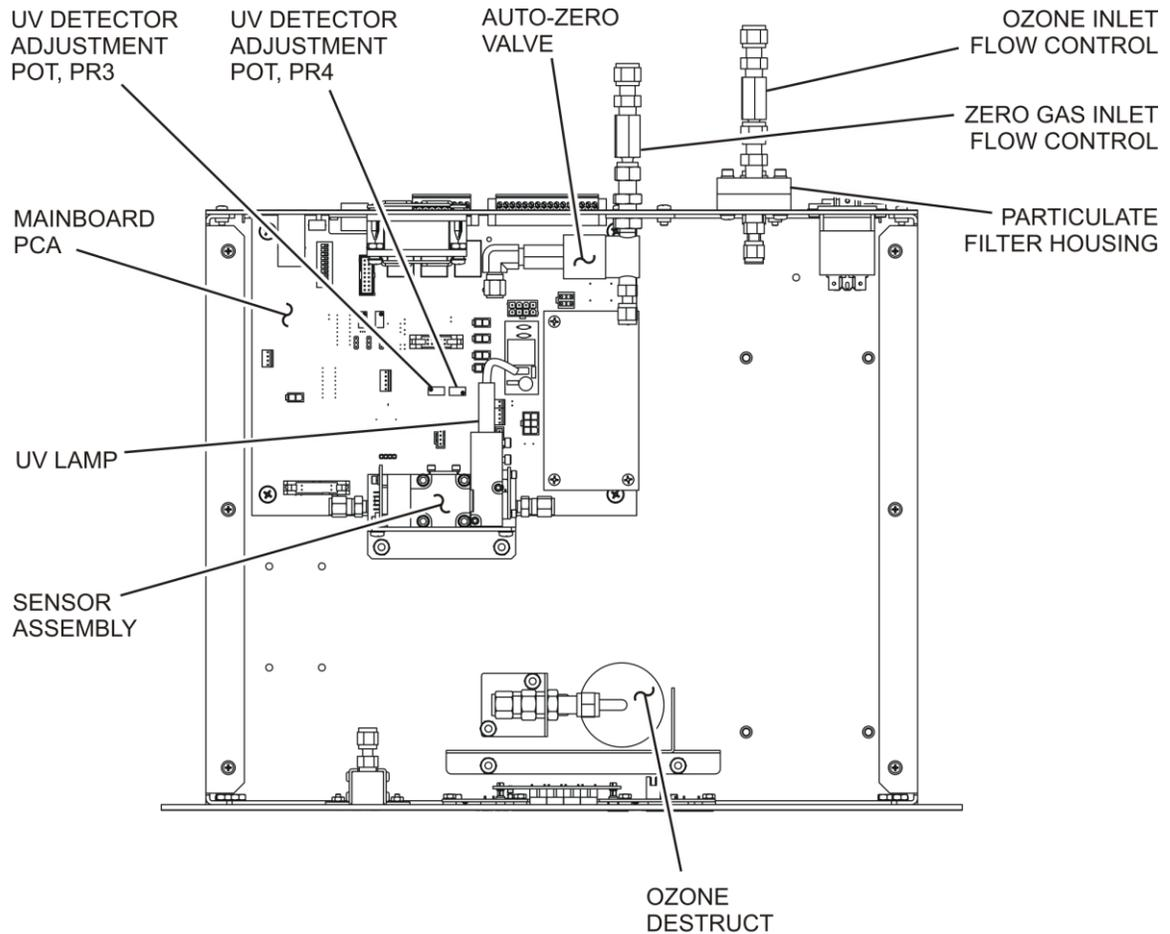
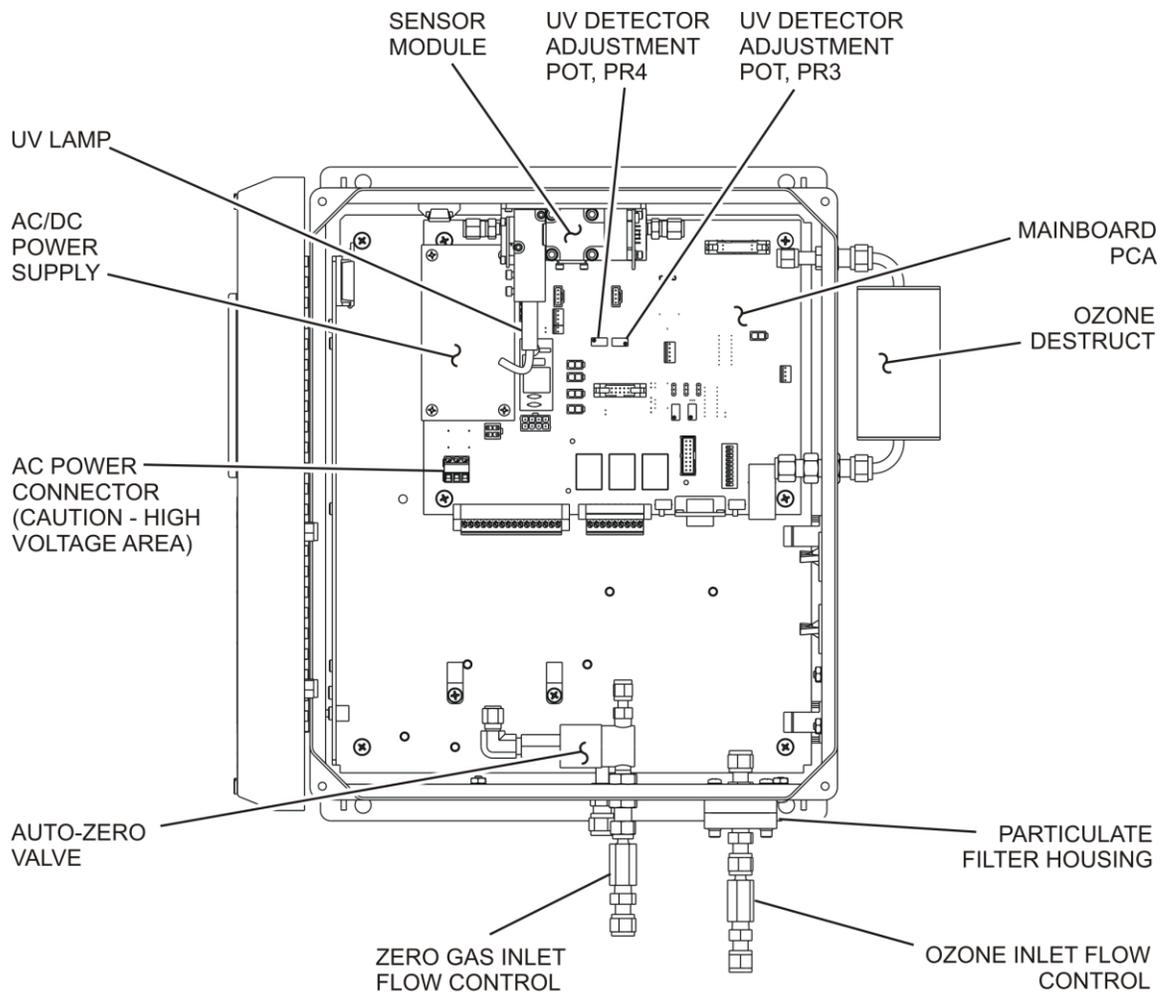

Figure 9-1: Instrument Layout, Rack Mount Configuration
Figure 9-2: Instrument Layout, NEMA Configuration
Figure 9-2 show the instrument layout of the 465H. These figures will be referenced in the procedures that follow.
2. Loosen the six screws from the top cover (Rack Mount Configuration, see Figure 9-1) or open front panel (NEMA Configuration, see Figure 9-2.)
4. Locate the particulate housing filter on the rear panel (Rack Mount Configuration, see Figure 9-1) or the bottom panel (NEMA Configuration, see Figure 9-2.)
3. Locate the Reference UV Detector adjustment pot, PR3, on the Mainboard PCA (see Figure 9-1 or Figure 9-2.)
6. Locate the Measure UV Detector adjustment pot, PR4, on the mainboard PCA (see Figure 9-1 or Figure 9-2.)
9. If the required adjustment cannot be achieved by adjusting the UV Detector pot alone, then additional adjustment can be made by loosening the two UV lamp setscrews on the UV lamp housing (see Figure 9-1 or Figure 9-2) and rotating the lamp. Rotate the lamp very slowly while observing the REF or MEAS value on the display. Make sure the lamp does not pull out and remains seated in the housing while it is being rotated. Re-tighten the two setscrews when a desired point has been reached.
3. Loosen the two UV lamp setscrews on the UV lamp housing (see Figure 9-1 or Figure 9-2.)
3. Locate the auto-zero valve (See Figure 9-1 or Figure 9-2.)
7. Remove the two (2) mounting screws using a #2 Phillips screwdriver. Note that there are four screw heads visible on the top of the valve body, only two (2) of these should be removed. Use the new valve as a reference to determine which two screws need to be removed.
3. Locate the Mainboard PCA (see Figure 9-1 or Figure 9-2).